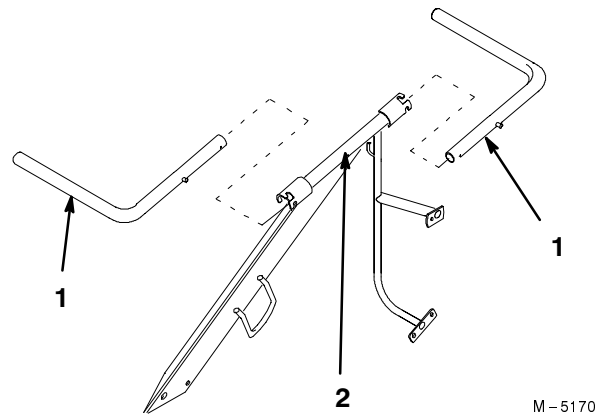

**Figure 5**
- Secure front of bagger frame to carrier frame and frame angle bracket with 2 capscrews and locknuts previously removed (Fig. 5). Tighten all mounting screws and locknuts.